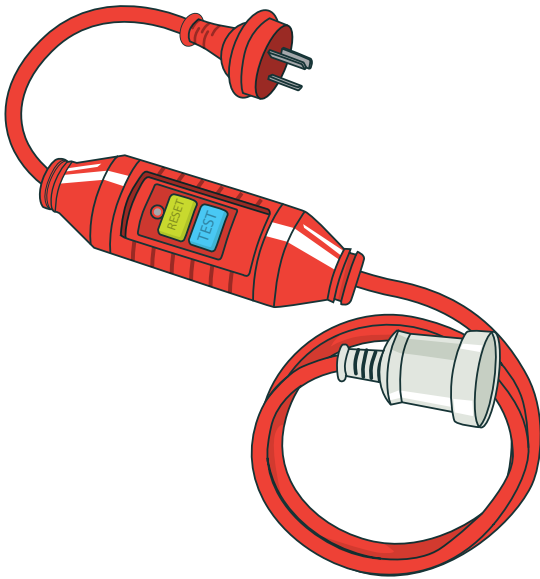

FIGURE 2: Portable RCD
- Some plug directly into a power point. An appliance or extension lead then plugs into the portable RCD (see Figure 2).